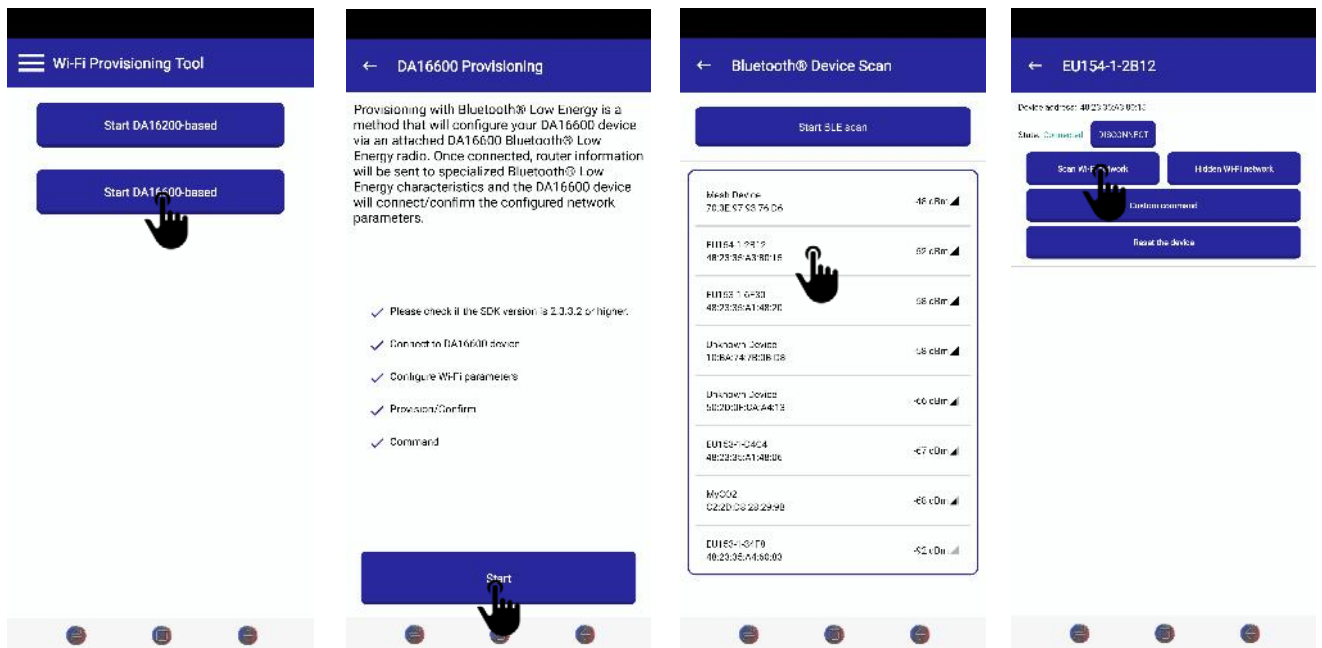

Figure 5: Search for the device using BLE.
9. When the app starts, follow the procedure shown in Figure 5: